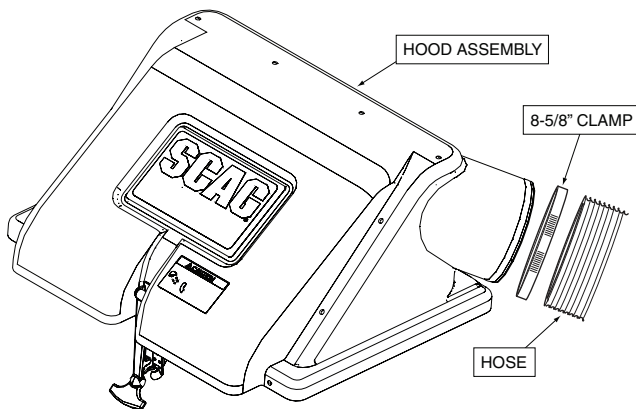

Figure 2-19. Hose Installation
- Install the hose to the hood assembly and secure with (1) 8-5/8" clamp included with this grass catcher. See Figure 2-19.